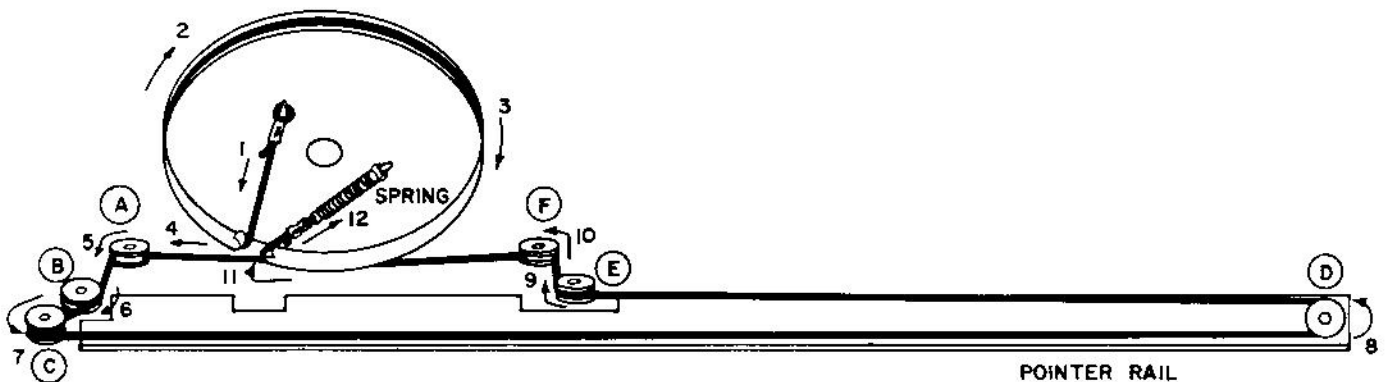

Figure 13. Dial Cord Stringing Diagram
5. Restraining the dial cord as follows (Fig 13):
- a. Attach the end of the cord to the tab (1) and pull the cord down and around the wheel (2 and 3) down behind wheel A (4).
- b. Continue up over wheel B (6) up to wheel C (7). Proceed across pointer rail to wheel D (8).
- c. Continue around wheel D to the left and over wheel E (9). Proceed down behind wheel F (10).
- d. Finish up by routing the cord into the wheel slot (11) and attach the spring on the tab (12).